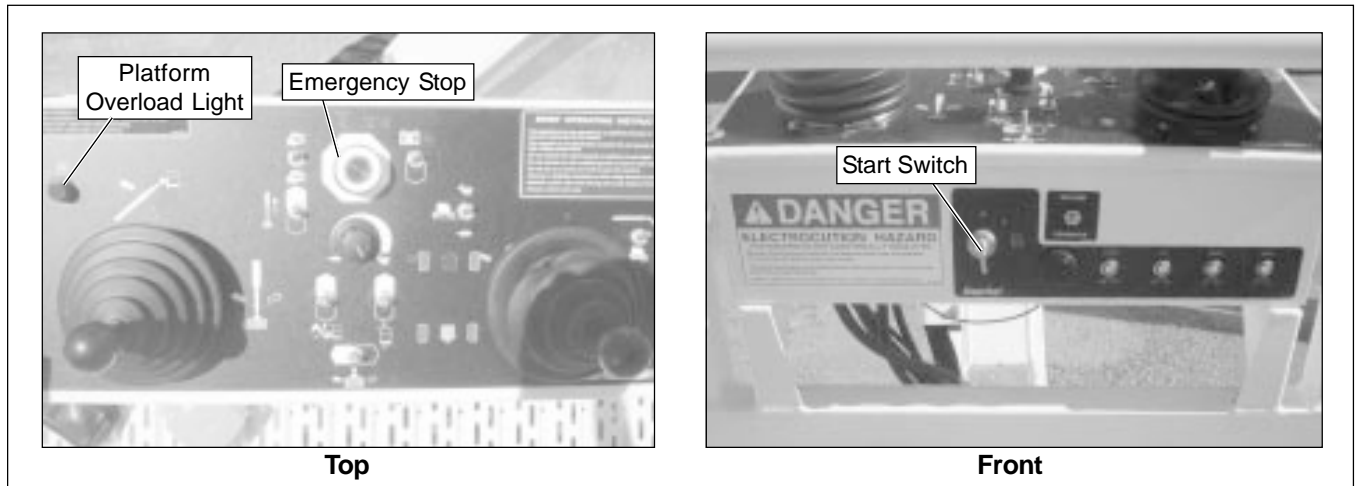

Figure 8.3 – Upper Controls
4. Pull the emergency stop outward (refer to Figure 8.3).